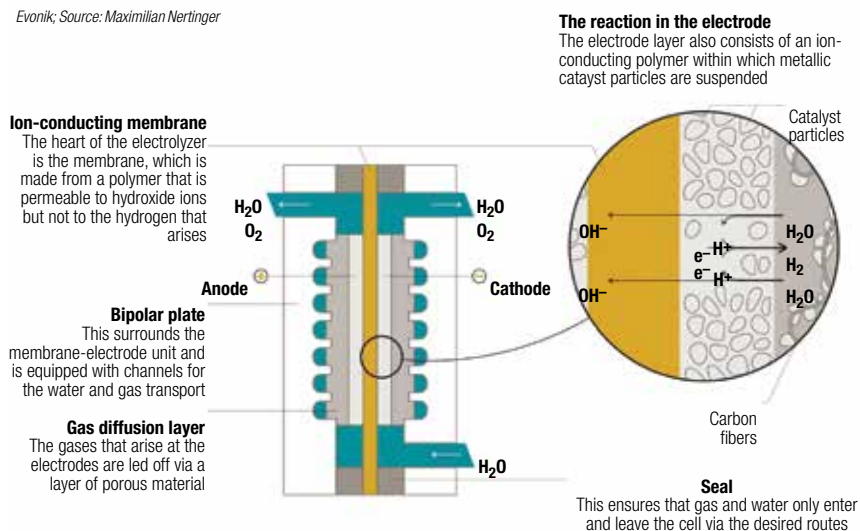

FIGURE 4. AEM electrolyzers are poised to combine the benefits of alkaline and PEM electrolyzers, which are currently the dominant technologies on the market
One emerging technology for H₂ production is anion-exchange membrane (AEM) electrolysis (Figure 4). AEM is somewhat of a hybrid solution combining the benefits of PEM and traditional diaphragm-based alkaline electrolysis, explains Oliver Conradi, who specializes in membrane research at Evonik Industries AG (Essen, Germany; www.evonik.com). "Alkaline electrolysis obviously involves very basic conditions, while PEM involves an acidic environment. These respective pH values require certain materials. In alkaline conditions, you can use cheaper materials, such as stainless steel and nickel, whereas with PEM, you must use platinum or other precious metals for the catalyst, and the electrochemical cell must be based on titanium, so the investment cost for PEM is much higher," explains Conradi. However, PEM systems overcome some of the fundamental limitations of traditional alkaline electrolysis — due to the specific cell design in alkaline systems, current density and efficiency are limited, and it is more difficult to pressurize an alkaline system, meaning that an additional compression step is typically required. "In PEM units, the dense membrane makes it easier to pressurize the whole sys-
FIGURE 4. This diagram shows a pump/electrical-driver system with measurements for volumetric flow (Q), pressure (P), suction, discharge, rotational speed (N) and electrical current (I)